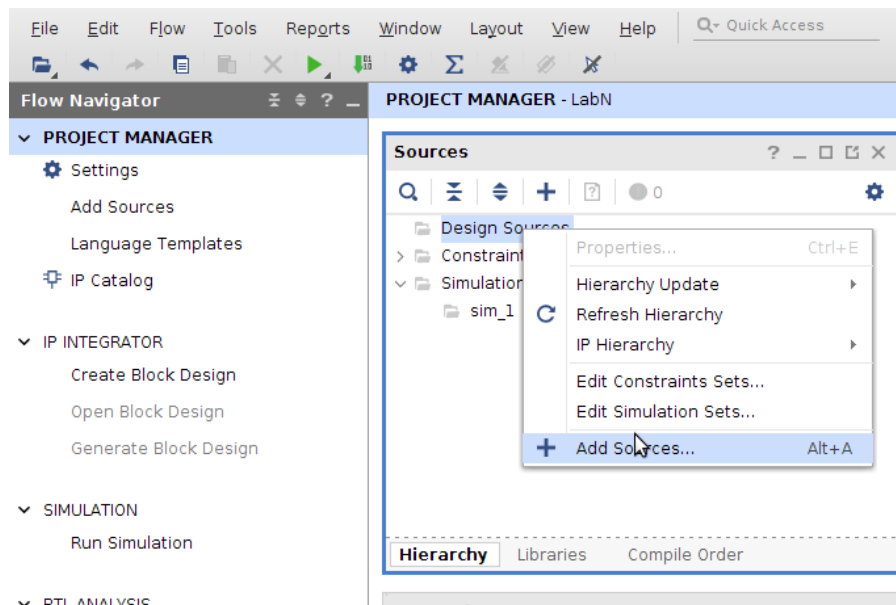

Figure 6 Add source files
1. First, we start by adding our design sources (HDL files). This is done by right-clicking anywhere in the “Sources window” and then selecting “Add Sources...” as shown in Figure 6. Or by selecting it from the Project Manager section under the “Flow Navigator” window.